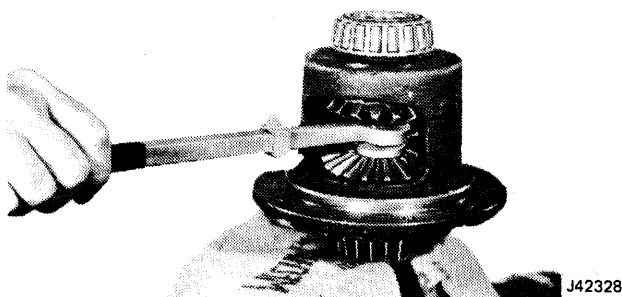

Fig. 10-63 Installing Gear Rotating Tool
(12) Position pawl end of gear rotating tool on step plate (fig. 10-63).
(13) Insert forcing screw through top of case and thread into gear rotating tool.
(14) Center forcing screw in step plate and tighten screw to move differential side gears away from differential pinion gears.